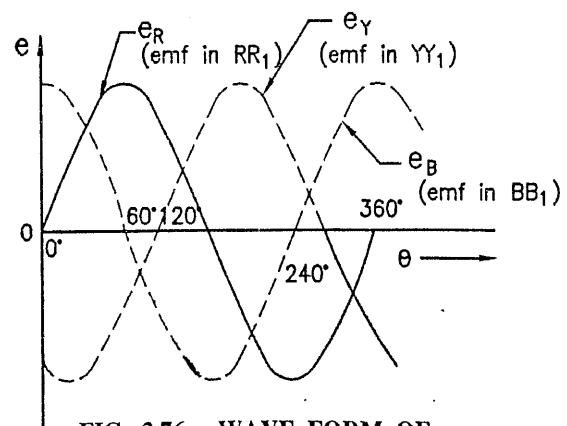

FIG. 2.76 : WAVE FORM OF THREE PHASE EMF
- The variation of emf with angular displacement is shown in Fig. 2.76.
- The waveforms of the emfs generated in the coils YY_1 and $B B_1$ have been shown by dotted lines in Fig. 2.76.